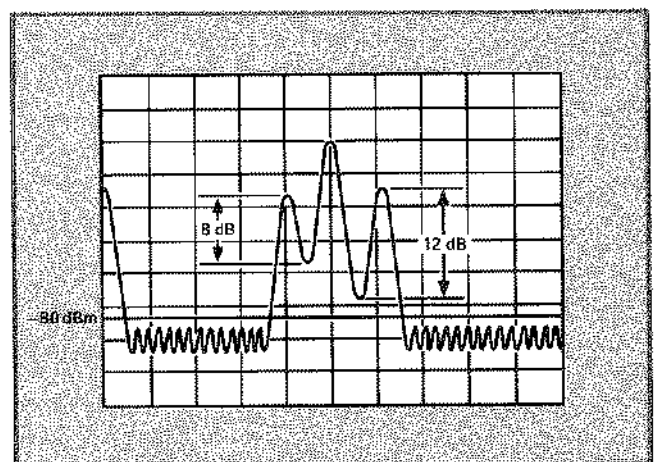

Figure 1. PEAKS reports only the peaks at the right.
Specifying a threshold (TH) value causes PEAKS to treat all lesser trace values as equal to the threshold. The peak excursion (MKPX) provides a way to establish the amount of superimposed noise to be ignored. A peak is confirmed only if data points exist on both sides of a candidate peak and if at least one point on each side has an amplitude less than the candidate peak by the peak excursion value. For example, performing PEAKS on the trace in figure 1, with a 10 dB peak excursion and a -80 dBm threshold, yields the reporting of the two peaks at the right. The leftmost signal is without data points on both sides of it, and the next signal in does not have a peak excursion of 10 dB on both sides. Refer to line 170 of the sample program for examples of TH and MKPX syntax.